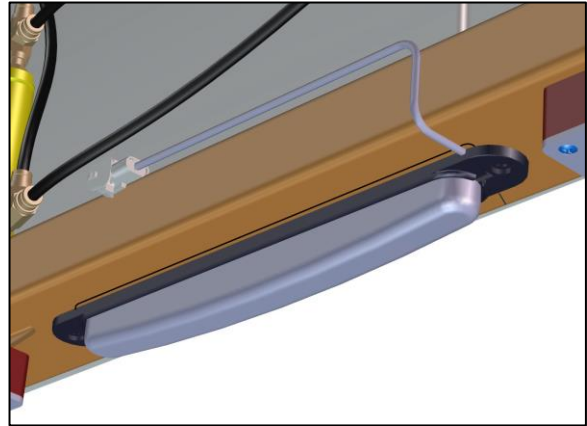

Figure 6
8. Center the entrance door light (Figure 6) with the marks made in step 6.
9. Mark the position of the holes to be drill through the metal structure (Figure 6). These holes will be used to support the light with screws.